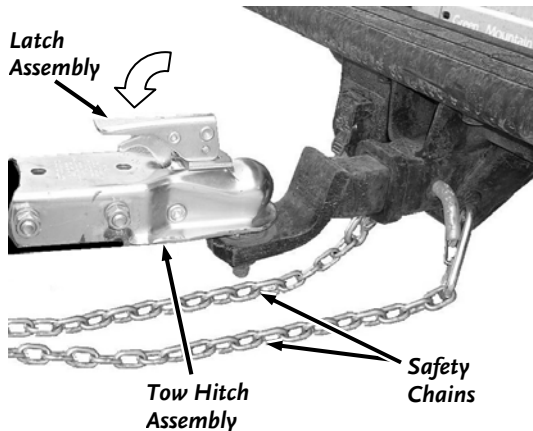

Figure 45
1. Close the Latch Assembly on the Tow Hitch Assembly to lock the Tow Hitch Assembly onto the Tow Ball (**Figure 45**). Attach the towing Safety Chains to the Tow Vehicle ensuring there is enough slack for turning.